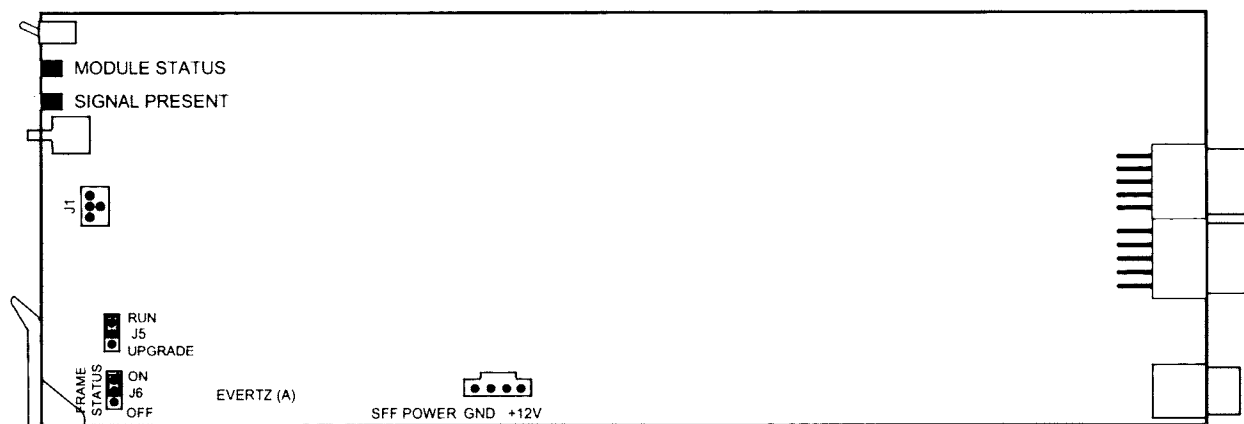

Figure 4 : Location of UPGRADE Jumper on 7761AVM-DC Boards
2. Connect the 7700PB Serial Upgrade cable to the 2 row x 3 pin header labelled J24 on the front edge of the 7700PB board as shown in Figure 2. Install the cable with the ribbon cable towards the front of the board. (On the 7761AVM-DC, look for the J1 connector. On the 7765AVM-4 “Quattro” look for J14 connector on the lower left, card edge on the Rev B - A7700CC board. See figures 4 and 5 for further details.)